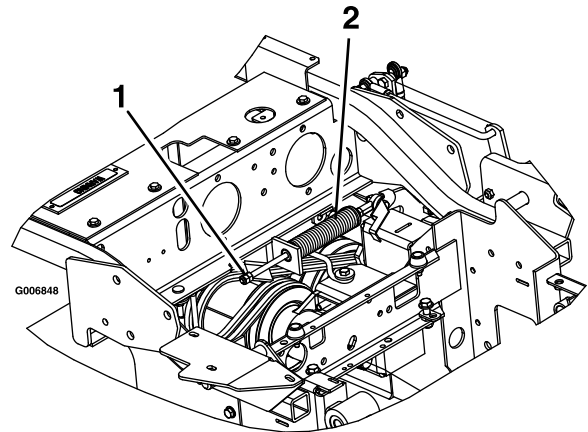

Figure 57
3. Locate the brake spring and thread the 2 jam nuts out to the end of the brake-spring rod (Figure 57).